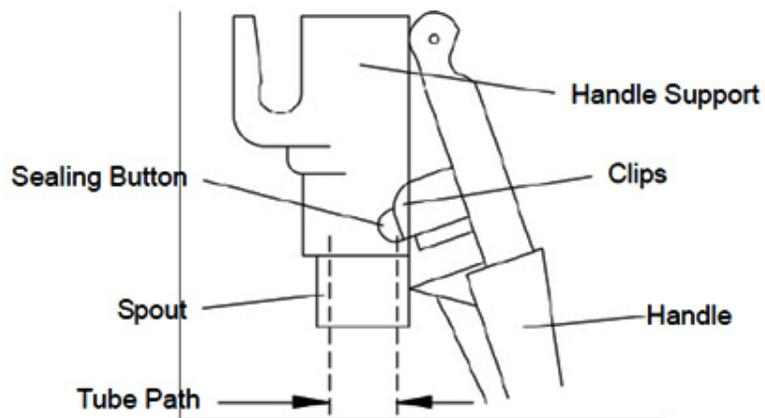

Figure 2.
1. Removing the push handles. See Figure 2.
- D. Carefully insert pinch tube into the bowl spout opening and on into the lower opening of the handle support spout (see Figure 2.). Make sure the end of the tube does not get caught on the edge